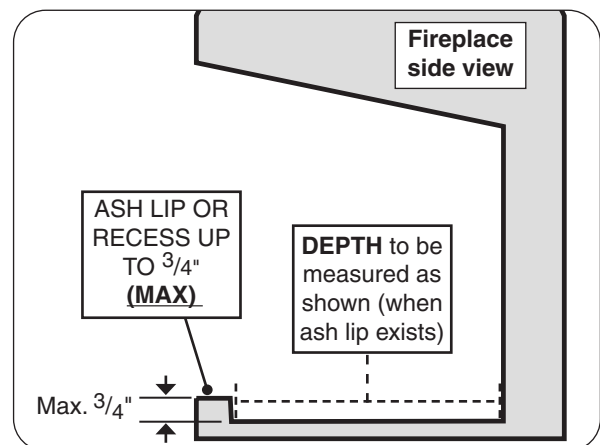

Fig. 8-1 Ash lip/recess detail
* For 02 models, add 2" to both front and rear width. These required widths allow for centering of the unit. † Rear width is at corresponding depth. ‡ If an ash lip exists, the depth requirement begins inside of the lip (see Fig. 8-1 below).
DO NOT install this burner system in a fireplace with an ash lip or recess greater than $\frac{3}{4}$ ". See Fig. 8-1.